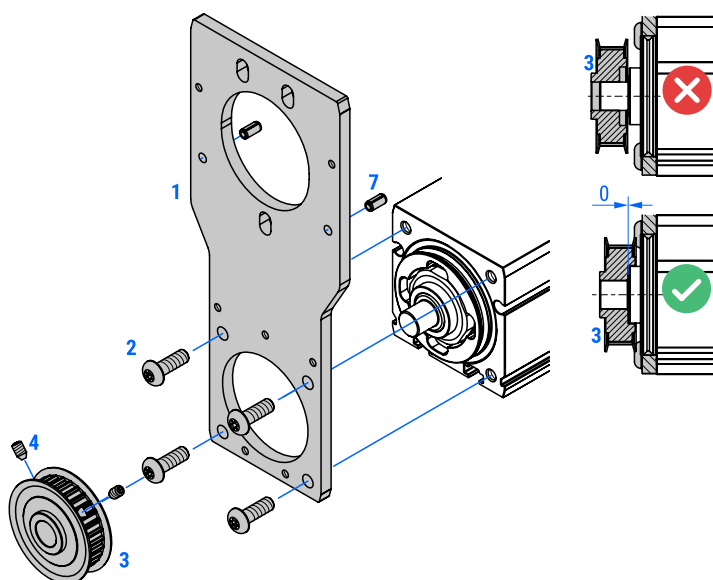

Figure 3: Step 1 and 2.
STEP 2: Place the product belt pulley 3 on the drive shaft of the product. Ensure that the product belt pulley 3 is completely pushed on the drive shaft of the product, please see the Figure 3.